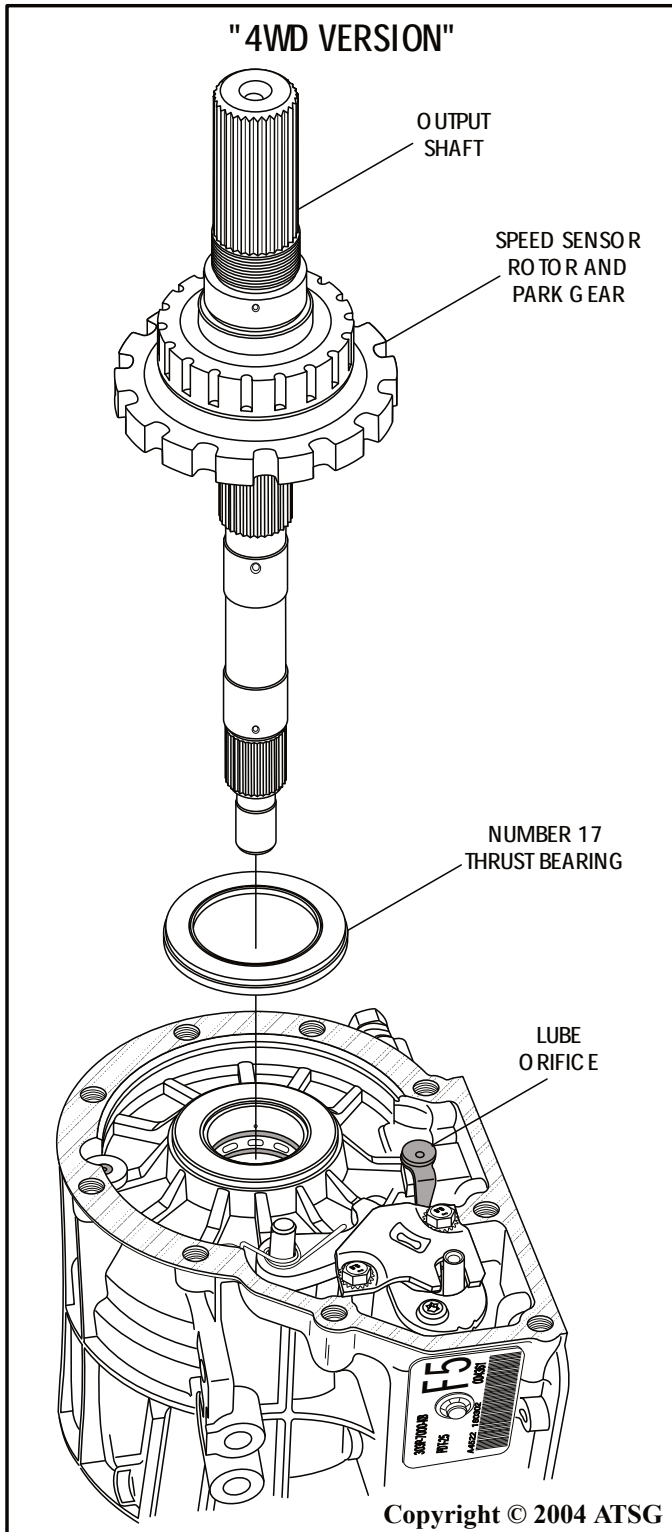

Figure 51
58. Remove the output shaft from transmission, as shown in Figure 51.
59. Remove the No. 17 thrust bearing, as shown in Figure 51.